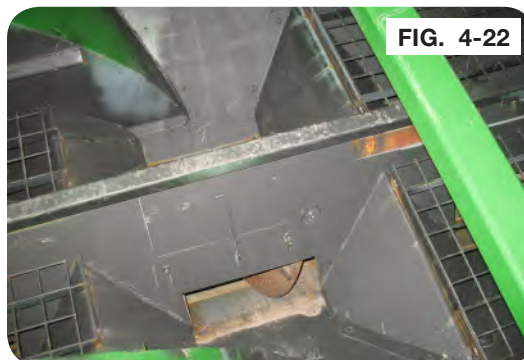

FIG. 4-22
1. Remove the 3/8" hardware retaining the second and fourth grates inside the hopper. (FIG. 4-22)
9. Torque all hardware to specification. See "Torque Chart" in this section. (FIGS. 4-22 and 4-23)